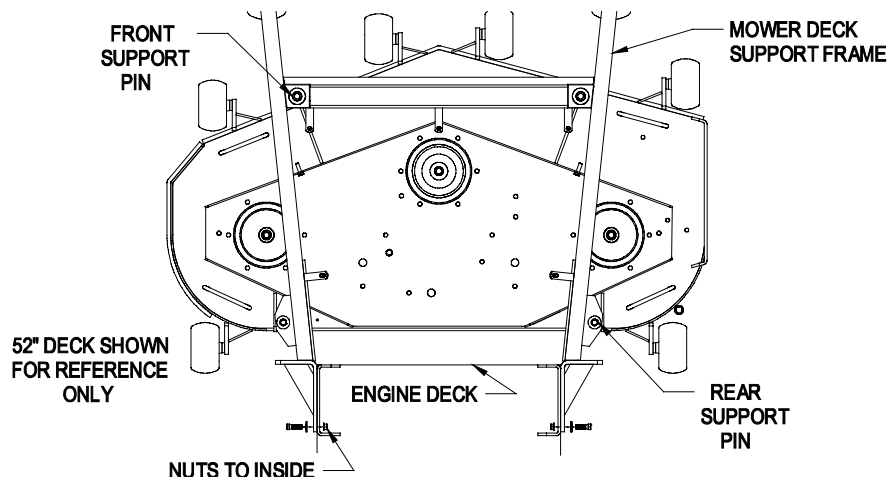

FIGURE 1
- 3.5.2 Remove mower deck support frame from mower deck by removing the two hairpins and spacers from the front deck support pins and by removing the two hairpins and spacers from the rear deck support pins (See Figure 1).
- 3.5.3 Install mower deck support frame to tractor engine deck and secure using (8) 3/8-16 x 1 1/4" screws, (8) disc spring washers and (8) whizlock nuts from bolt bag (See Figure 1).
- NOTE:** Place spring washer cone side against bolt head (cupped side away from head) and install to outside of support frame (as shown in Figure 1). Install with whizlock nuts to the inside of engine deck. Tighten until spring washers are flat.
Align and re-install the mower deck support pins into the support frame. Install the two spacers and hairpins onto the front support pins and the two hairpins and spacers onto the rear support pins (See Figure 1).